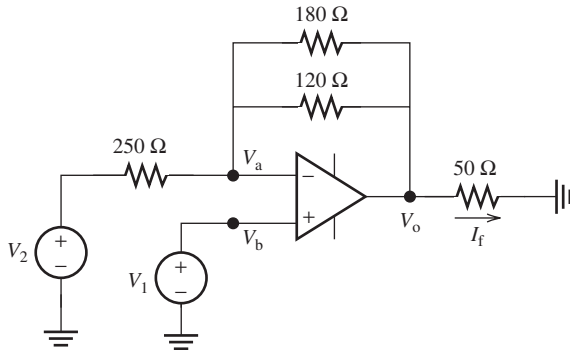

FIGURE P8.75 Circuit for Problem 8.75.
- 8.75 (B)*** For the circuit shown in Figure P8.75, the input voltages are $V_1 = 15\text{ V}$ and $V_2 = 10\text{ V}$. Determine the current, I_f , in the figure.